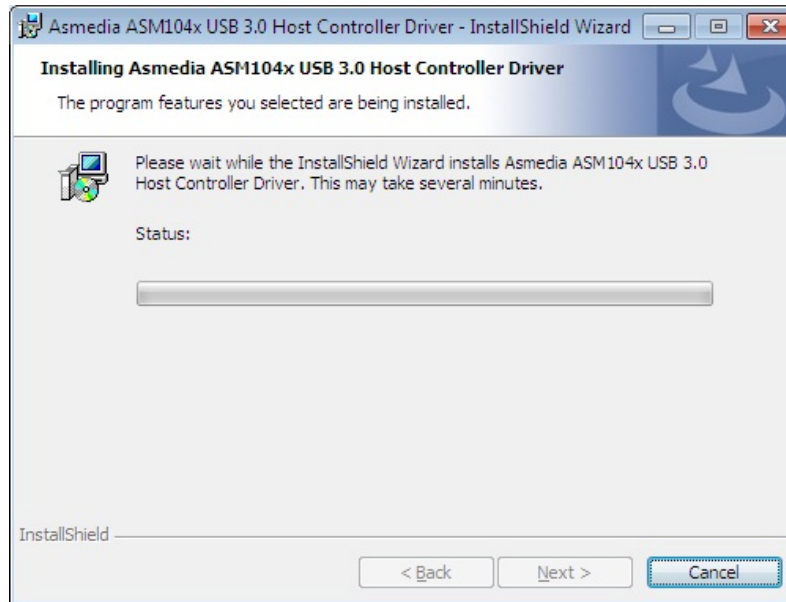

Figure 6-22: USB 3.0 Driver Setup Operations
Step 9: The installation progress can be monitored in the progress bar shown in **Figure 6-22**.